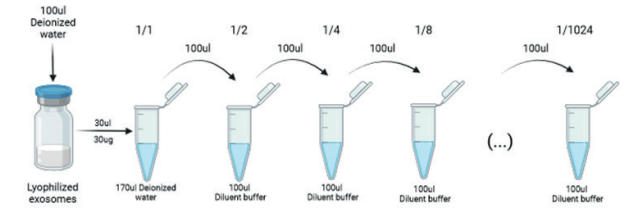

Figure 2: Graphical Representation of the serial dilution of the Standard included in the kit.
- We need to mix 200 µl from Eppendorf n^o1 (1/1 dilution) to Eppendorf n^o2 (1/2 dilution). Repeat this process until the 1/1024 dilution is completed (figure 2). Last well should contain only diluent buffer. This is the point that we will use as blank.